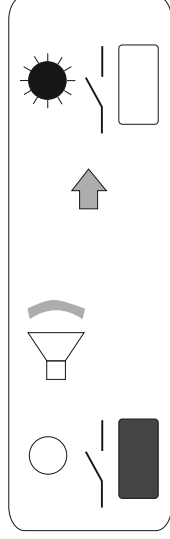

Fig. 3
- Hold down the “**↘**” **key** until there is a brief audible signal, then release it: the control is activated and the corresponding **LED** is steady on (fig.3).